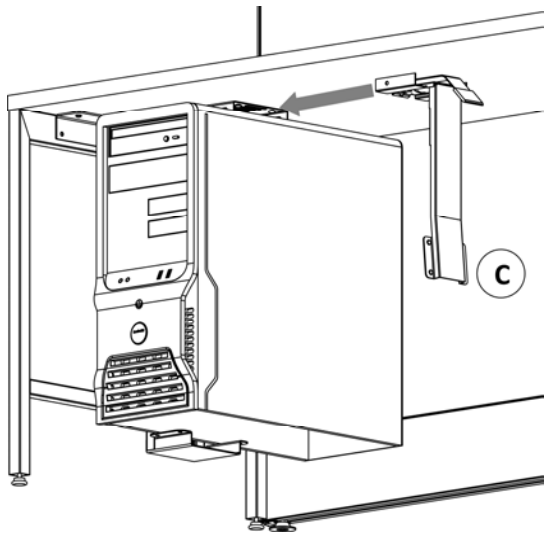

Figure 4
- 4. Slide and engage part (C) to part (A), (Figure 4).